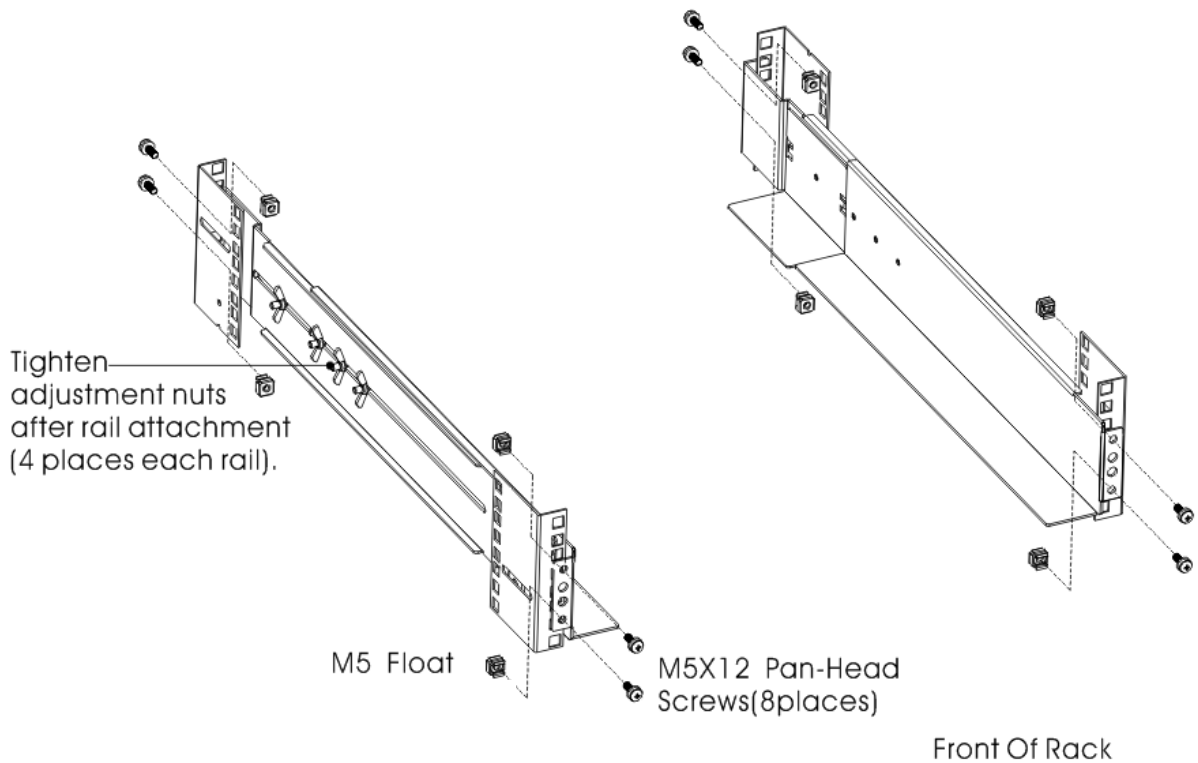

FIG. 3 Fixing the Rails
2. Select the proper size in the rack for positioning the UPS (see FIG.3). The rail occupies four positions on the front and rear of the rack.